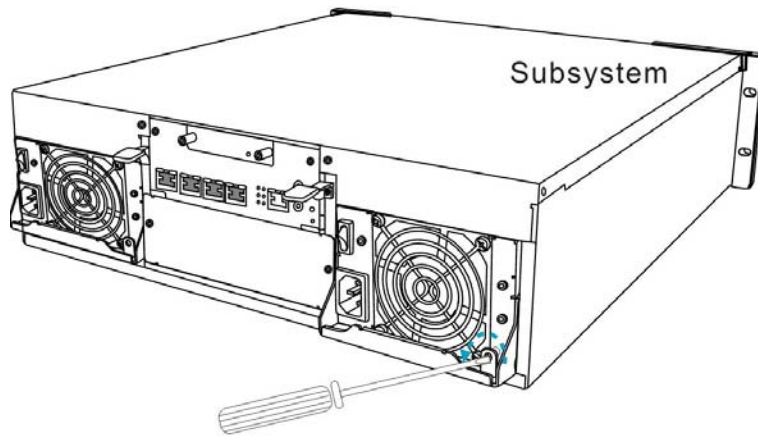

Figure 5-10: Removing the PSU Retention Screw
Step 3. **Remove the retention screw** that secures the rejection handle to the chassis. (See *Figure 5-10: Removing the PSU Retention Screw.*)